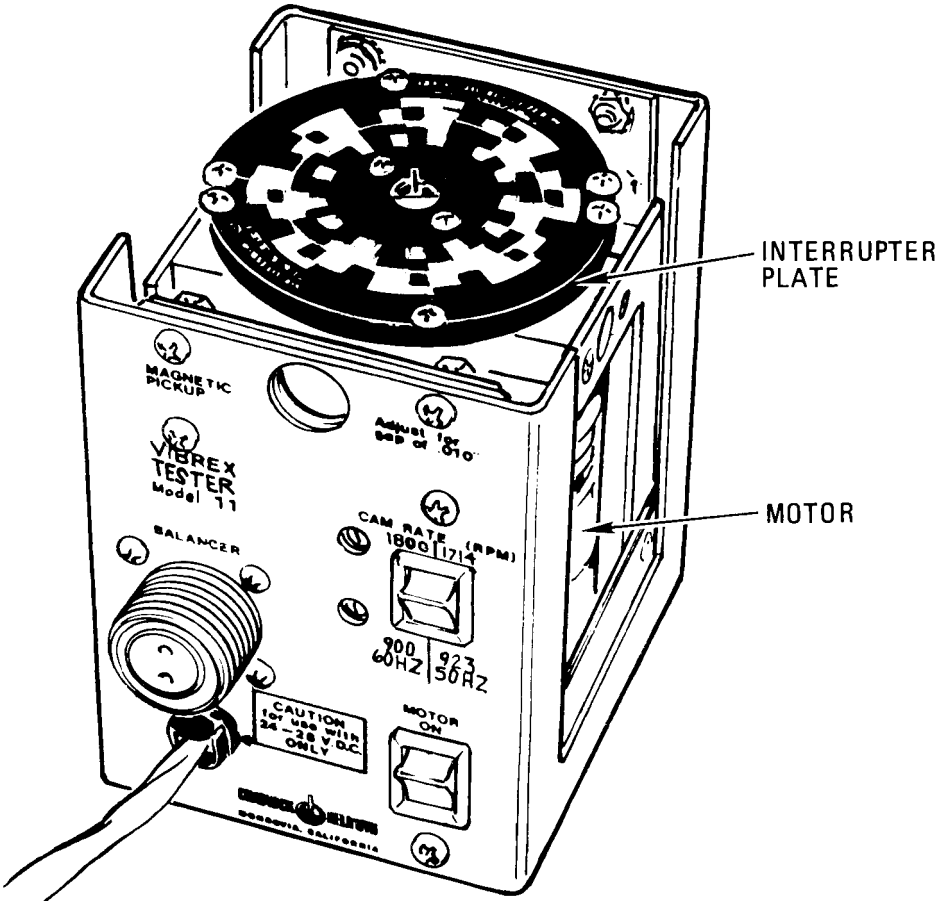

Figure 1-4. VIBREX Tester 11
*c. VIBREX Tester 11.* The VIBREX Tester (fig. 1-4) (hereafter referred to as Tester) provides accurate calibration and complete functional check of the VIBREX. The Tester shakes (vibrates) the Accelerometer to measure vibration amplitude in inches-per-second (IPS) and rate (RPM) functions of the Balancer. Phase or clock angle functions of the Phazor section are verified by a rotating interrupter plate and the Magnetic Pickup to provide double and single interrupter logic signals. The RPM dial of the Strobex is accurately checked against the known rotor speed of the Tester motor.